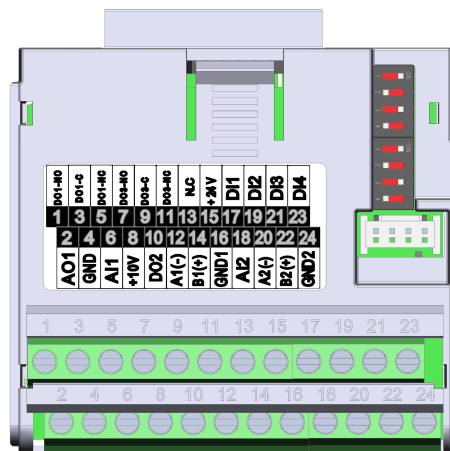

Figure 19.1: Plug-in module CFW500-CRS485
The CFW500-CRS485 plug-in module has Serial (1) interface through RS-485 port at terminals 12 (A-) and 14 (B+), as well as the Serial (2) interface through another RS-485 port at terminals 20 (A2+) and 22 (B2+), see Figure 19.1 on page 19-1. See also, GND1 on terminal 16 and GND2 on terminal 24 are isolated each other and from GND on terminal 16.